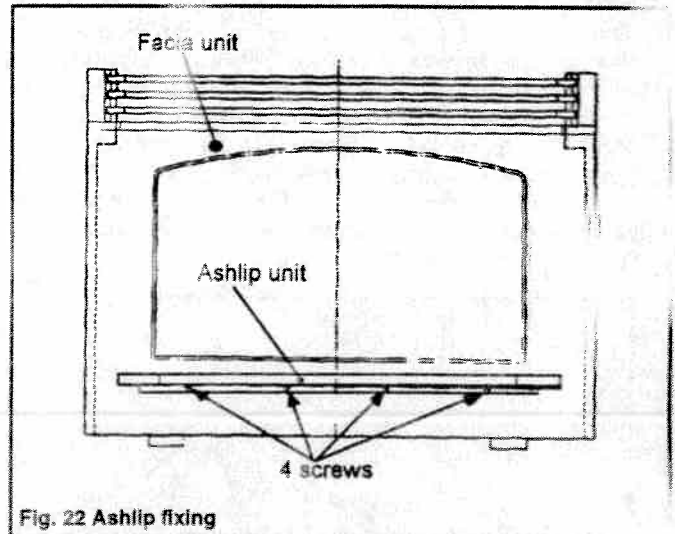

Fig. 22 Ashlip fixing
- 18.1 Fit the ashlip to the facia unit with 4 screws (see figure 22).